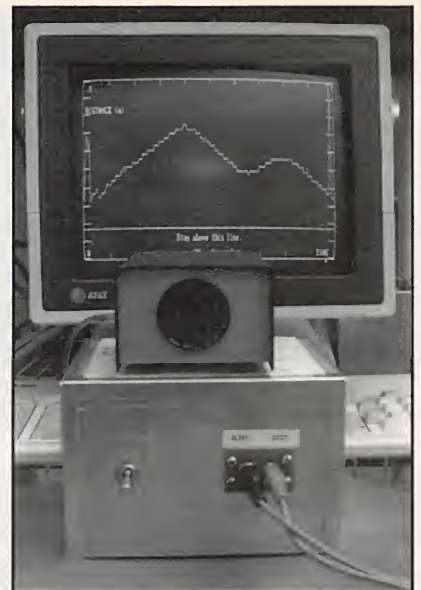

Fig. 16. Polaroid Sonic Ranger rests on battery box. PC uses distance measurements from Ranger to plot distance versus time.
• **Ultrasonic Ranger Apparatus** (Fig. 16). This experiment uses sound pulses to measure a student's distance from the computer. The PC is programmed to give a real-time graph of distance versus time as the student